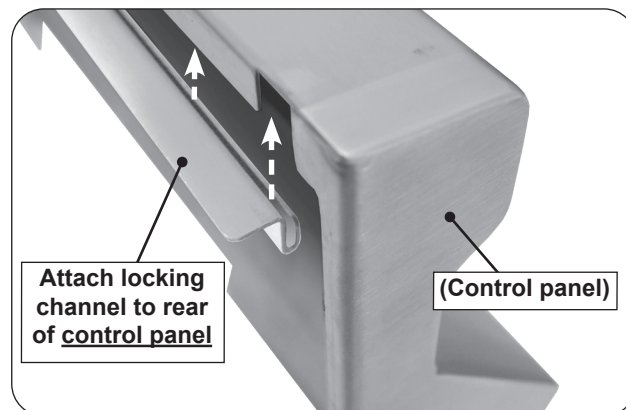

Fig. 29-1 Attach cooking grid locking channel
1. Attach the cooking grid locking channel to the rear top lip of the control panel (see Fig. 29-1).